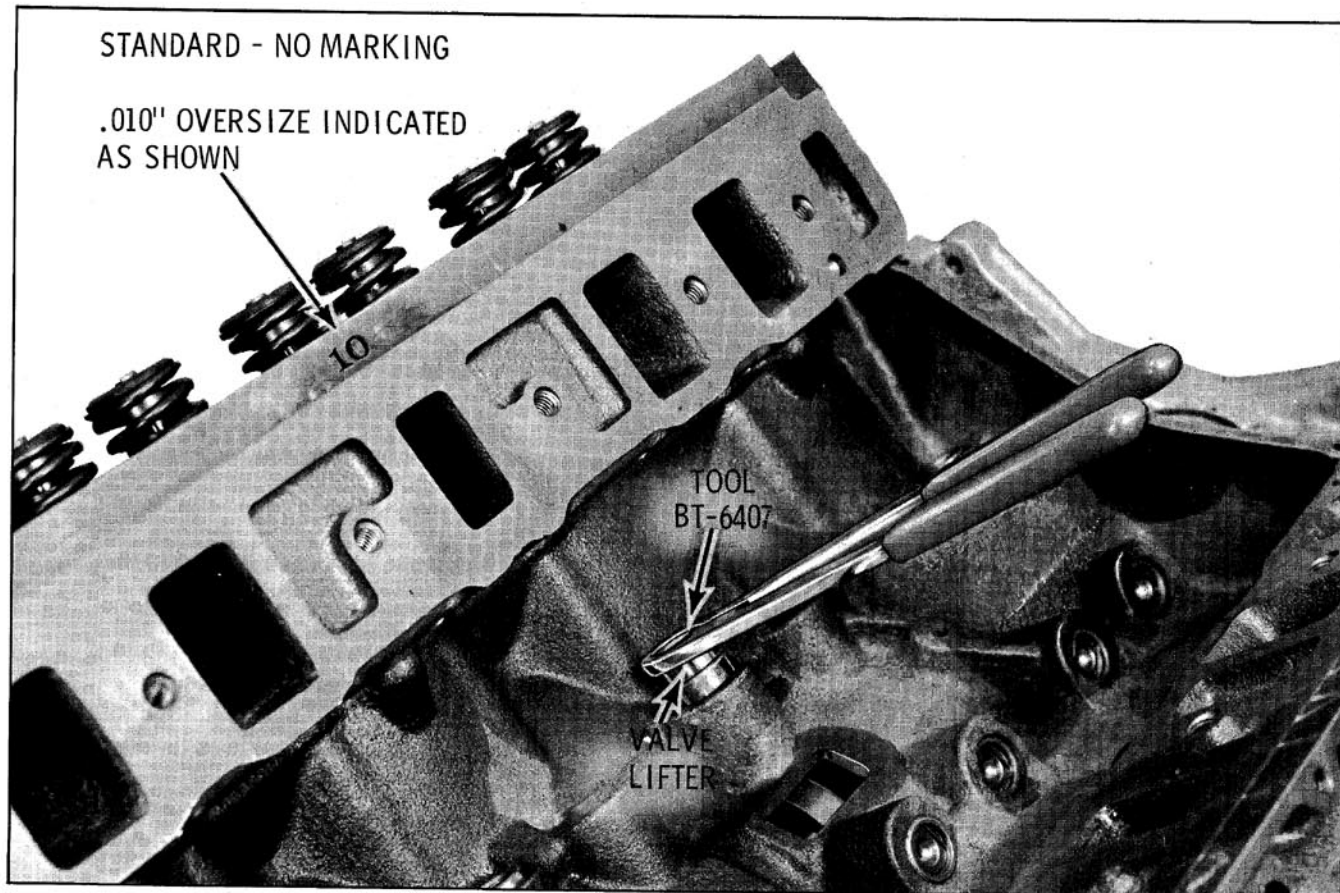

Fig. 3-57 Removing Valve Lifter
4. Remove lifters. Use of Tool BT-6407 will aid in removal of varnished lifters. (Fig. 3-57)